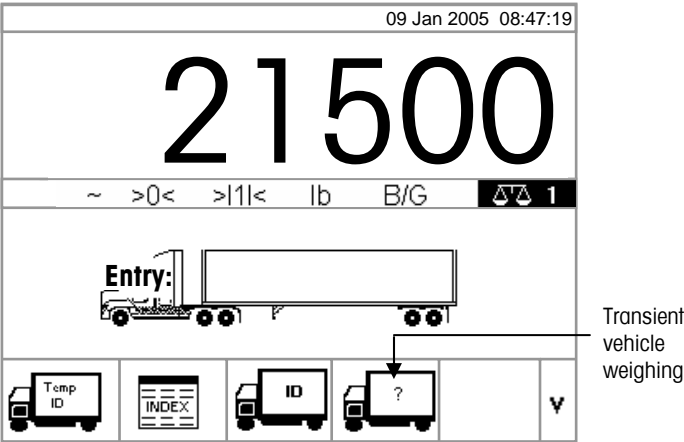

Figure 2-11: Default Weighing Screen
- 1. Once the vehicle is on the scale, press the TRANSIENT VEHICLE WEIGHING softkey (see Figure 2-11).